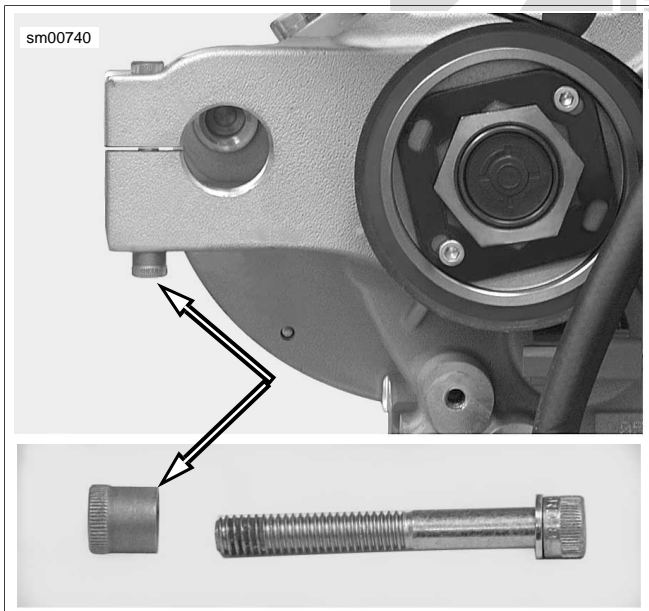

Figure 3-18. Threaded Insert
- c. See Figure 3-18. Swingarm pivot shaft pinch bolt threaded insert.